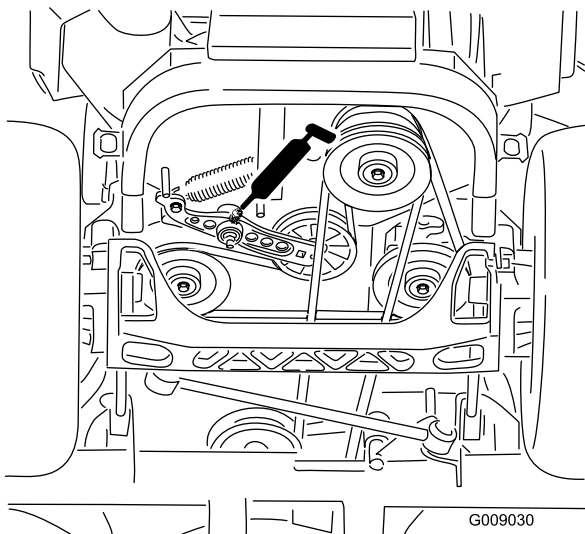

Figure 44
5. Grease the drive-belt-idler arm (Figure 44).